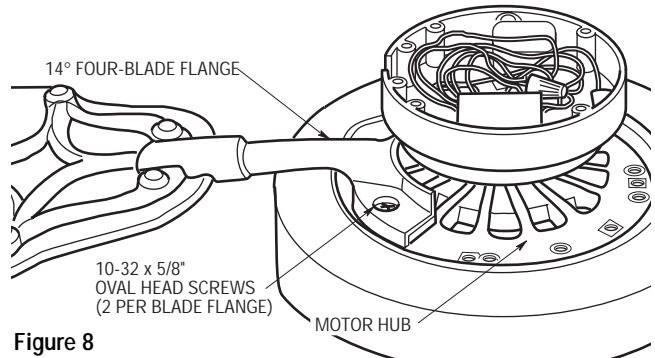

Figure 8
- 13. **FOUR-BLADE VERSION.** Attach one blade assembly to the motor hub using two 10-32 x 5/8" oval head screws (supplied) (Figure 8). Do not tighten completely at this time. Install remaining blade assemblies in the same way. Gently snug all flange screws to the motor hub, working around the hub in a clockwise sequence. Next, securely tighten all flange screws, again working in a clockwise sequence. Failure to follow this procedure could result in fan wobble.